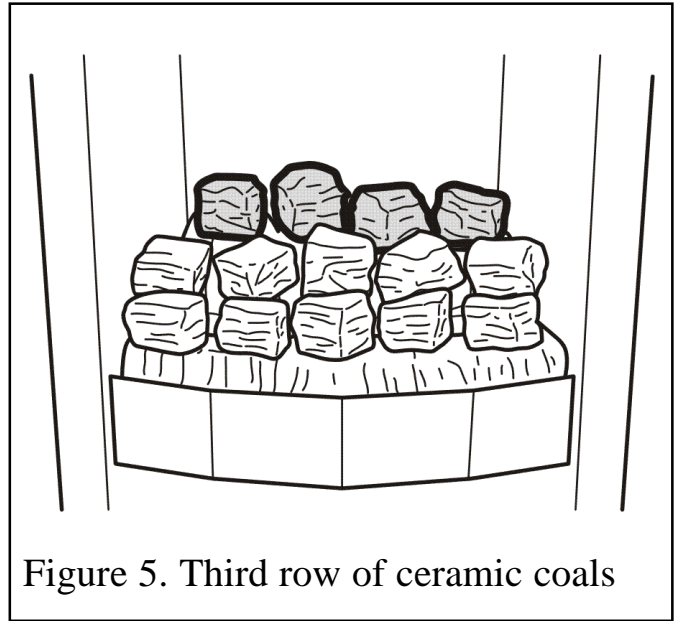

Figure 5. Third row of ceramic coals
4. Place the remaining four ceramic coals on top of the base ceramic coal rear (See figure 5).